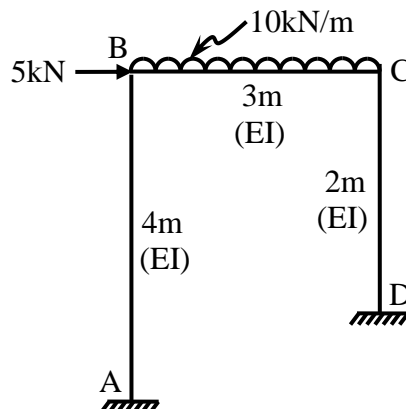

Fig.2
5. Analyze plane frame shown in fig.2 by Slope–Deflection Method. Draw axial force, shear force and bending moment diagrams showing all salient points.
6. Analyze plane frame shown in fig.2 by Moment Distribution Method. Draw axial force, shear force and bending moment diagrams showing all salient points. $E = 25000 \text{ N/mm}^2$, $b \times D = 300 \text{ mm} \times 400 \text{ mm}$.
9. Analyze plane frame shown in fig.2 using any structural analysis professional software and compare the results with the results obtained in Q.5 & Q.6.